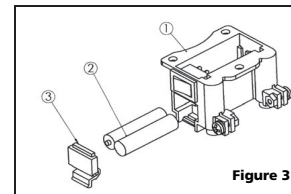

Figure 3
3. Take off the battery cover (3), and insert two "AAA" size batteries (2), as the direction is indicated in Figure 3.
4. Insert them into the laser box (1), making sure the anode (+) and cathode (-) of each battery is placed in accordance to the marks on battery cover (3).
5. Put battery cover (3) back onto laser box (1).